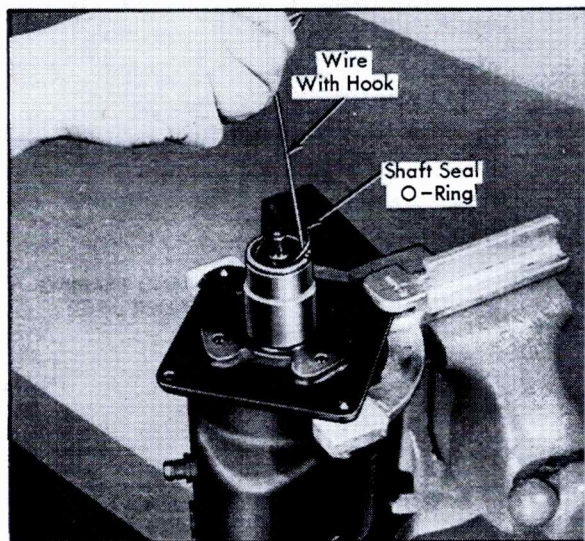

Fig. 1-52 Removing Shaft Seal O-Ring
7. Remove seal seat O-ring from compressor neck. A wire with a hook formed on the end may be used, Fig. 1-52.